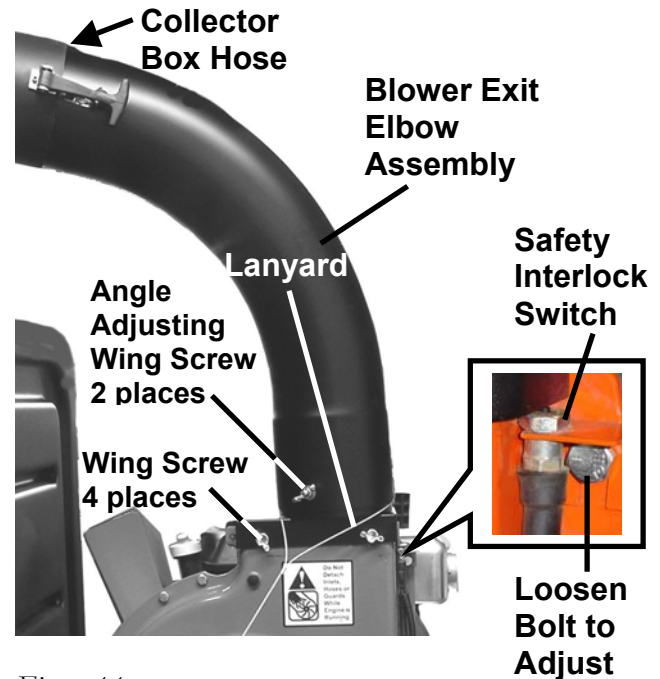

Figure 14
1. Install the Blower Exit Elbow Assembly on top of the Blower with the elbow pointing toward the Collector Box (Figure 14).
2. Align the hood of the Blower Exit Elbow Assembly to assure that the Safety Interlock Switch is engaged, verify the position of the Lanyard as shown, and then install a Lock Washer and Flat Washer over each of the four (4) 5/16" x 1/2" Wing Screws and hand tighten them to the blower housing (Figure 14).
Note: Align the Exit Elbow with the hose by loosening the two (2) Wing Screws (Figure 14) one or two turns and then turn the Elbow to align with the hose.